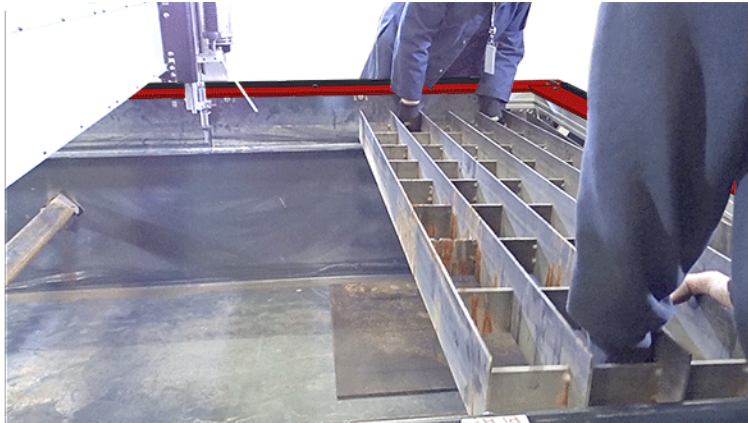
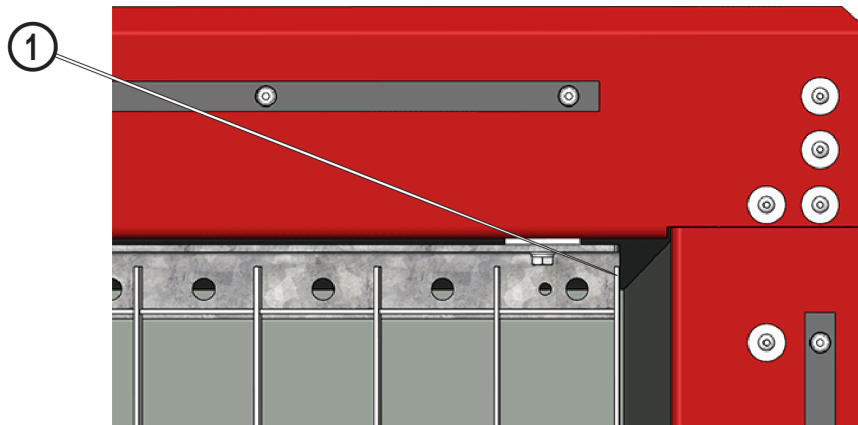

Figure 15
Figure 16
2. Place the first **slat grate** flush with the end of the **grate supports** [1] at the **controller wall**(Figure 15) and (Figure 16).